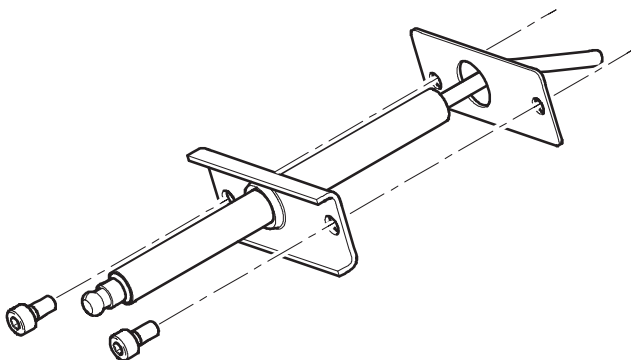

Figure 29: Flame Rod Assembly
- Install flame rod as shown in Figure 29.